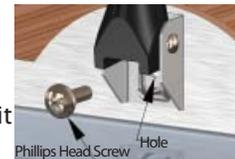

Figure 2
Step 5: Rotate handle assembly and glass door upright together as a single unit (Figure 2).